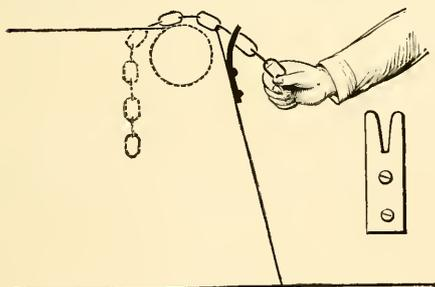

FIG. 258.
**Clip for Chain of Centre-Board**.—Captain E. du Boulay, of the Bembridge Sailing Club, recommends a clip made of galvanised iron as shown in Fig. 258, and fastened just behind the sheave over which the chain works. One